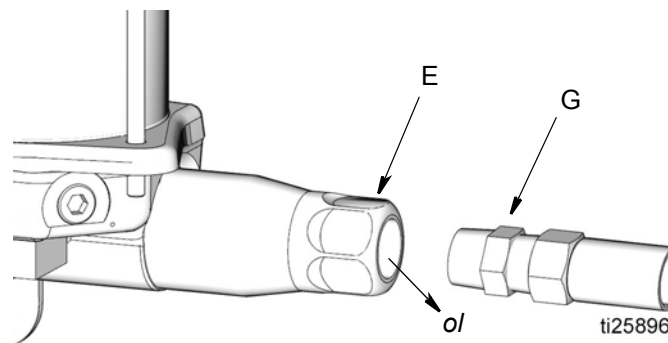

FIG. 7
3. Disconnect the lubricant supply line (G) from the pump outlet (E) (FIG. 7).
5. Run the pump a few strokes until oil (oil), free of air, comes out of the pump outlet (E) (FIG. 7).